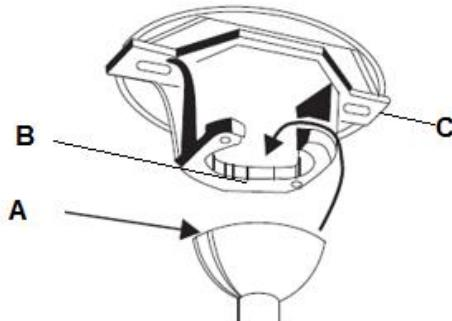

Fig. 9
4. **Hang the complete fan assembly onto mounting bracket. ("Hanging the fan" section & Fig. 9)**
HANGING THE FAN (Fig. 9)
Lift the fan assembly onto the mounting bracket. Ensure the key slot (A) of the hanger ball is positioned on the key pin (B) of the mounting bracket (C) to prevent the fan from rotating when in operation. (Fig.9)